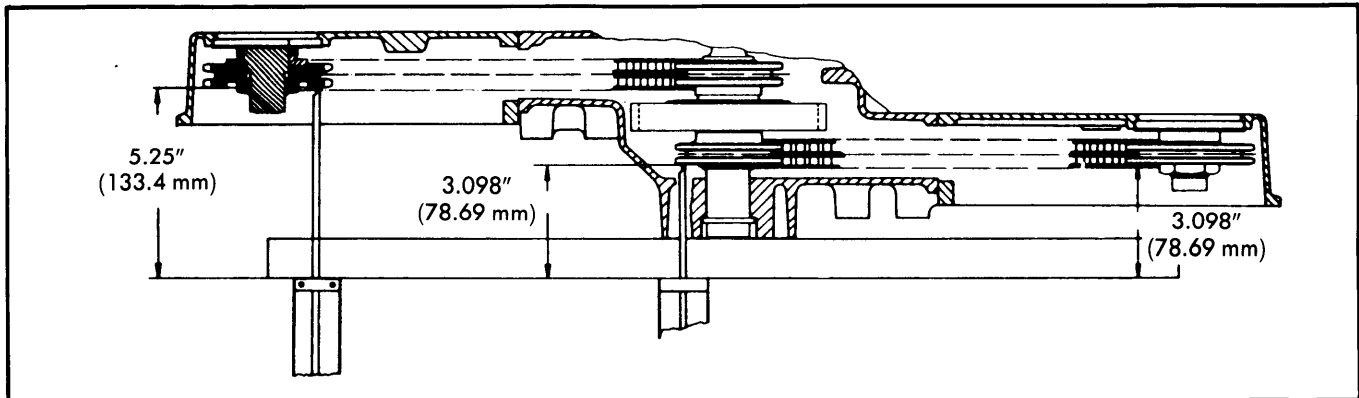

Fig. 11 Top View Showing Timing Chain Alignment
6) Install camshaft sprockets. Check chain alignment; see Fig. 11.
new timing chains. Reverse removal procedure to reassemble. Check valve timing and chain alignment; see Fig. 11 & 13.